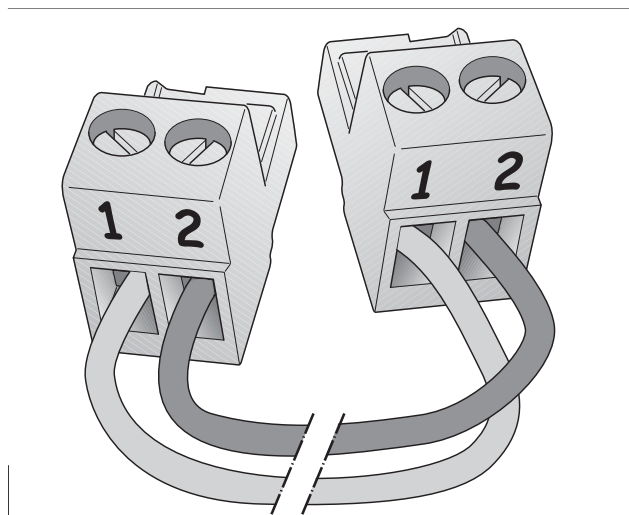

fig. 64 EMS bus polarity
- Make a sufficiently long EMS bus connection cable, using a 2-core cable of 0.4 - 0.75 mm² and the connector enclosed with the module (fig. 64).
- Connect the wire from terminal 1 to terminal 1 and from terminal 2 to terminal 2 (fig. 64 and 66).